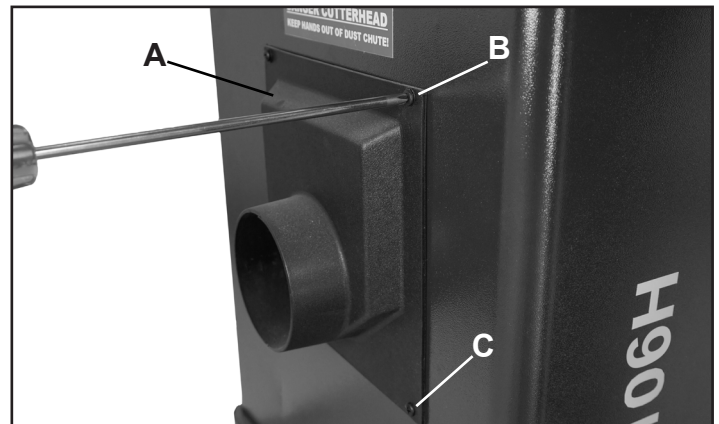

FIG. 12
1. Tighten the two upper Screws (B) with a Phillips screwdriver, and tighten the two lower Screws (C) with a Phillips screwdriver when the dust port is in proper location. FIG. 12.